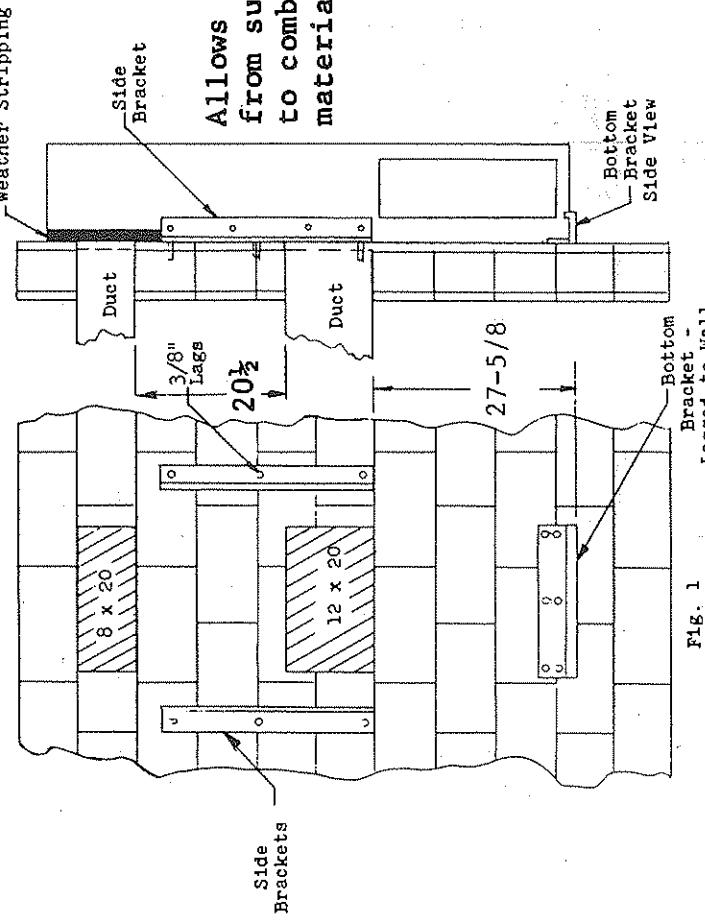

Fig. 1
1. Two holes, the size of the supply and return air openings must be cut through the wall as shown in Fig. 1 and 2 on page 5.
These units are secured by wall mounting brackets which secure the unit to the outside wall surface at both sides and at the bottom. (Fig. 1).
Whenever a model WA or WH is installed, a galvanized metal duct liner must always be attached (Fig. 1). Before installing, determine the wall thickness. If the installation is free air flow, with no external duct, then the liner should be cut flush with the inside wall opening. In order to insure no sweating, the duct liner should be wrapped with a minimum of 1" insulation.